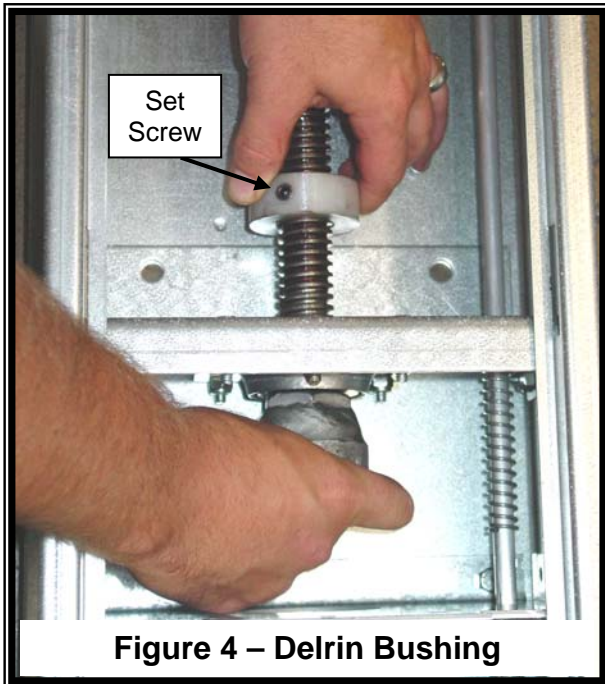

Figure 4 – Delrin Bushing
- (15) Loosen the delrin bushing set screw using a 3/32" allen wrench. Rotate the delrin bushing upward approximately 6-8 inches. Refer to Figure 4.